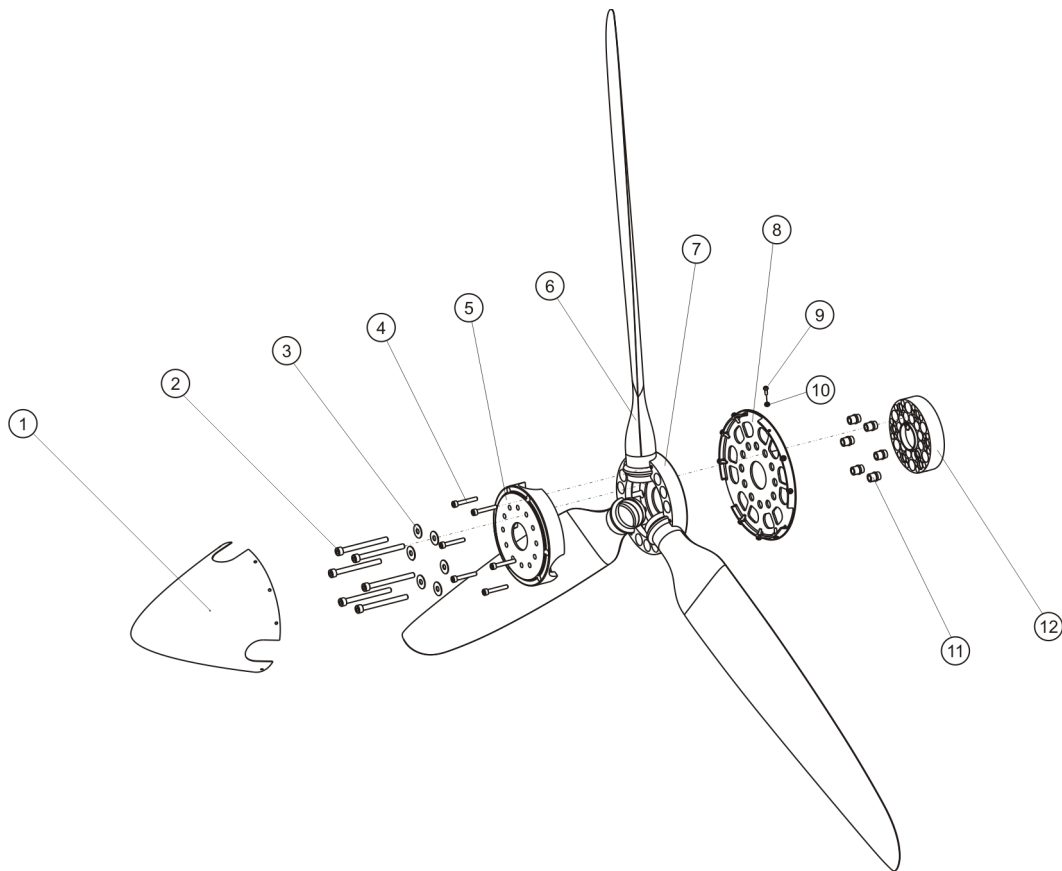

Fig. 1 - Propeller HTC
- 1 Untighten bolts (Fig. 1, 4) so that bolt heads does not contact outer propeller hub.